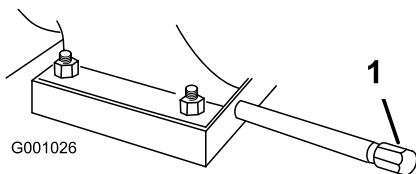

Figure 41
1. Clean the area around the oil drain cap (Figure 41).